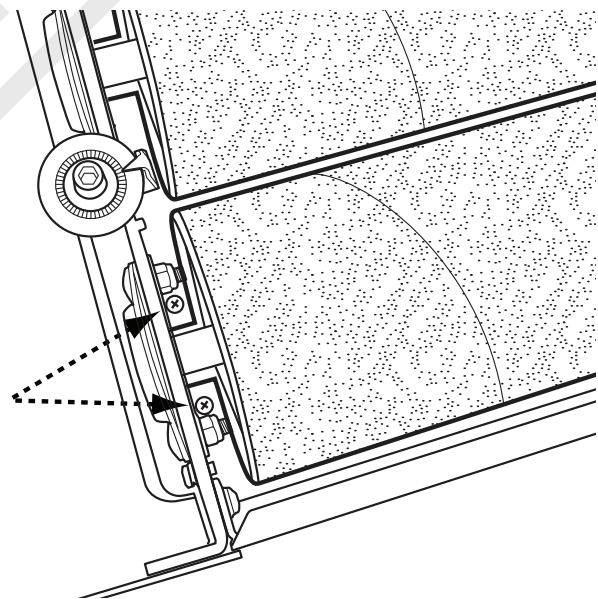

FIG. 12
2. Locate the roller pressure adjustment screws as indicated in Fig. 12.